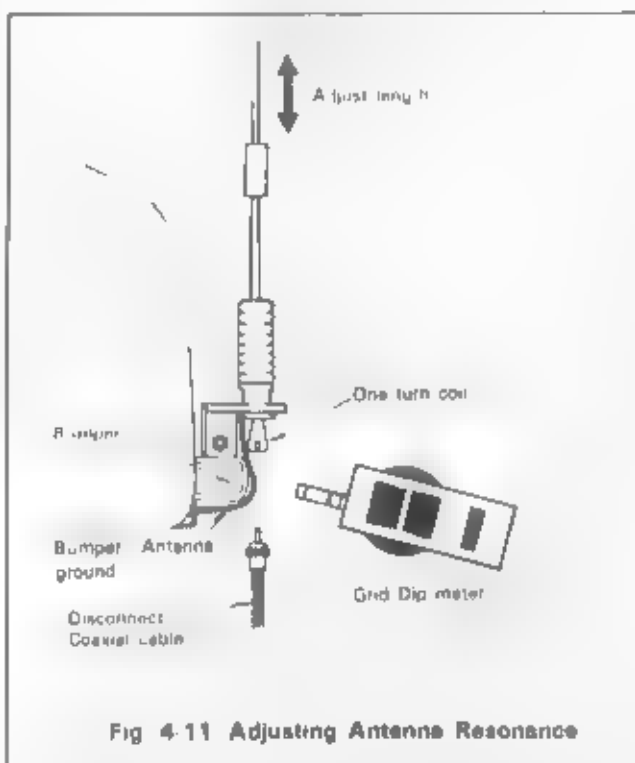

Fig. 4-11 Adjusting Antenna Resonance
(3) Antenna Adjustment (Fig. 4-11)
The antenna to be used should first be checked with a dip meter to insure that it is designed for your operating band; then the impedance matching should be checked with an SWR meter. (See Fig. 4-11.)